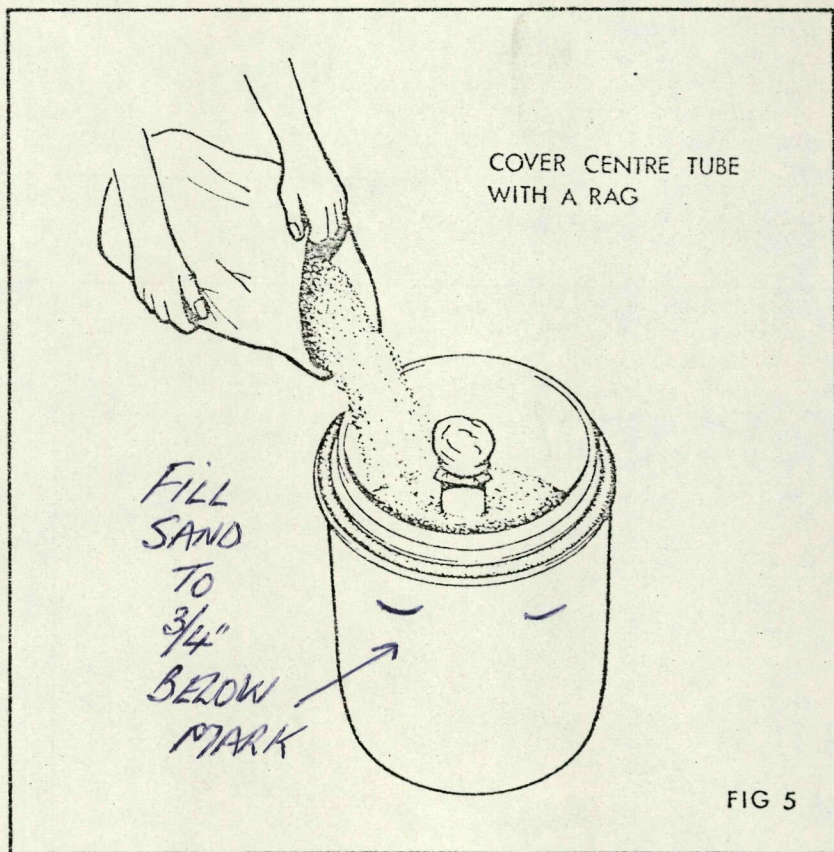

FIG 5
1. Place the pump and motor on the base preferably on a concrete slab so that the standard elbows (5) in the pool side wall line up with the inlet and outlet of the filter.
2. Using the short connection tubes (6), washers (1) and lock nuts (2) make the connection between surface skimmer and filter. Tighten nuts firmly.
3. Remove clamp (33) from the filter tank by unscrewing bolts (34).
4. Remove tank lid (27) and defuser (29) by lifting straight up vertically.
5. Pour special filter sand evenly into the filter tank and fill tank with water. (Cover the centre tube so that sand does not enter the tube (Fig. 5))
6. Clean 'O' (38) and 'O' ring groove of all particles of sand.